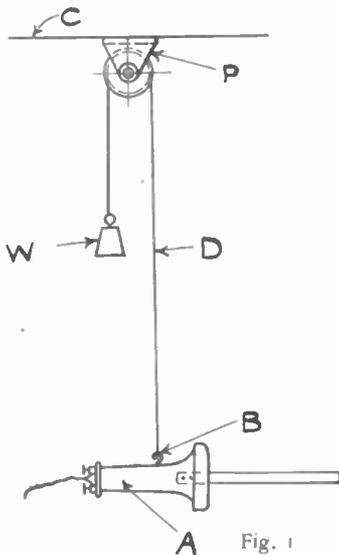

Fig. 1
Of course I rewound my receiver for a higher resistance, as it was only 75 ohms. I did this, using 1,000 feet of number 50 single silk covered copper wire. I then procured a small pulley, P, Fig. 1, and fastened it securely to the ceiling (C, Fig. 1), directly above my wireless table. I then took a light cord about 12 feet long, or the distance from my table to the pulley, and back one-quar-
ter this distance again (D, Fig. 1), and passed it over the pulley and fastened one end of the weight (W, Fig. 1), which is a lead or iron chunk, weighing one ounce less than the receiver (A, Fig. 1).
I then found a point (B, Fig. 1), where the weight of the ends of the receiver balanced and screwed a small screw eye into it, as shown. I now fastened the other end of the cord to the screw eye. The receiver now practically weighed but one ounce. But as it is handier to have a head band and have
M.E. -FIG. 1-
fasten a piece of wire around the other binding post and connect it with the binding post in the center of the board. After this is done make the handle. The handle can be made from a piece of brass 3 inches long and 1/16 inch thick cut as shown in Fig. 1. A rubber post, procured from a supply house, is screwed to the free end of handle. After this is made make a hole about 1/4 of an inch from one end. This hole should be large enough so as to allow the binding post in the center to go through.
-FIG. 1-